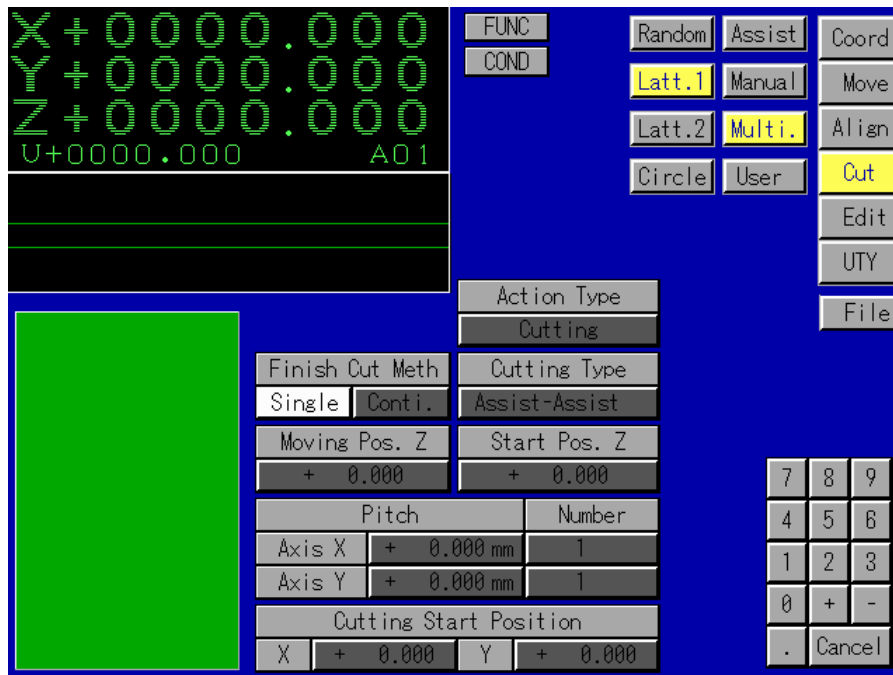

Fig.8.2.1
This sub mode performs the multiple cutting at the Lattice (1) position Press the [Latt.1] button from the four types of cutting buttons of the [Multi], the screen displays the Lattice 1 multiple cutting scene as Fig.8.2.1